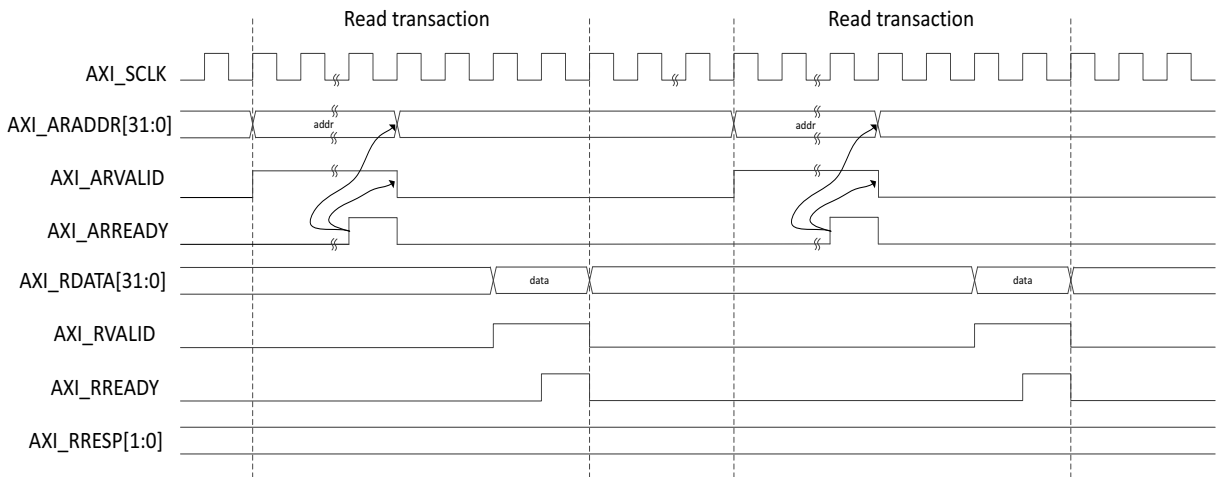

Figure 5-15: AXI4-Lite User Side Read Transaction
- Valid Read transactions (Figure 5-15)